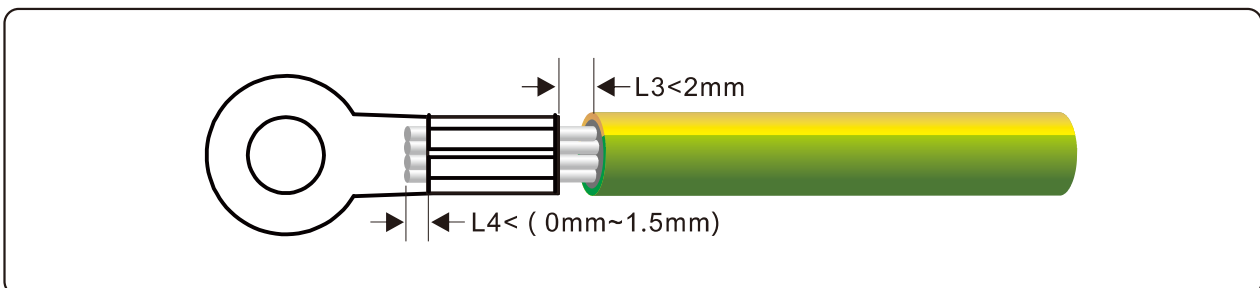

Figure 5.2 Crimping a cable (unit: mm)
**Step 2** Insert the exposed core wires into the crimping areas of the OT terminal and crimp them by using hydraulic pliers, as shown in Figure 5.2.